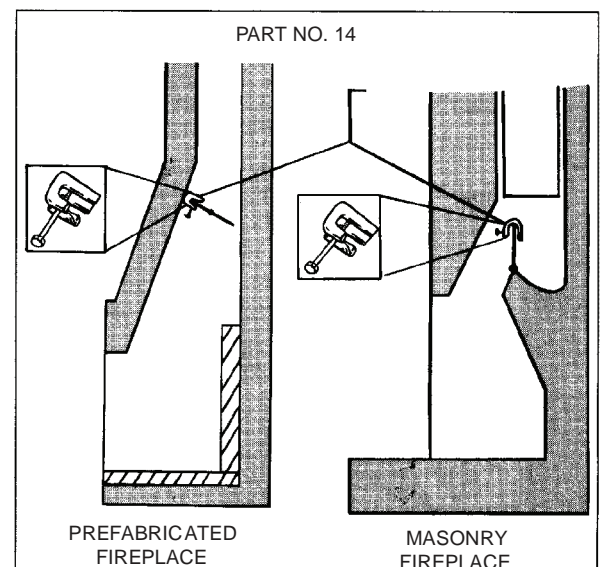

Figure 2. Damper stop clamp
- B. Open fireplace damper fully and install Damper Stop Clamp with 1/4x2" set screw (Part 14#). This clamp is Designed to allow any pilot combustion by-products to vent (See **Fig.2**) Should the Damper Stop Clamp supplied not fit, a permanant damper stop clamp must be installed that will keep the damper open at a distance of not less than 1 1/2".